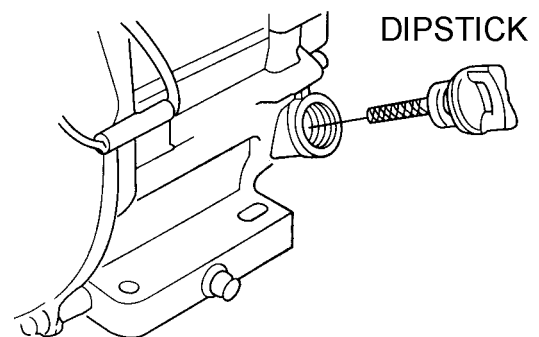

Figure 15. Engine Oil Dipstick Removal
2. Remove the dipstick from the engine oil filler hole (Figure 15) and wipe clean.